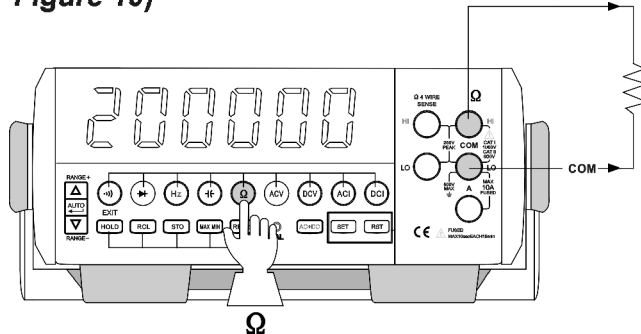
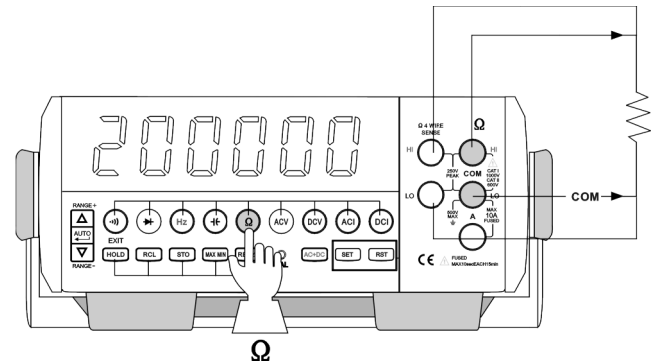

Figure 9
Figure 10
4. Resistance measurement (See Figure 9 and Figure 10)
1) The Figure 9 shows the Two-end resistance measuring method, with the resistance to be entered from the front panel. At this time, insert the red pen-shape meter into “V Ω Hz →” input port and the black pen-shape meter into “COM” input port;
4) The Figure 10 shows the four-end resistance measuring method. At this time, it should use two pairs of pen-shape